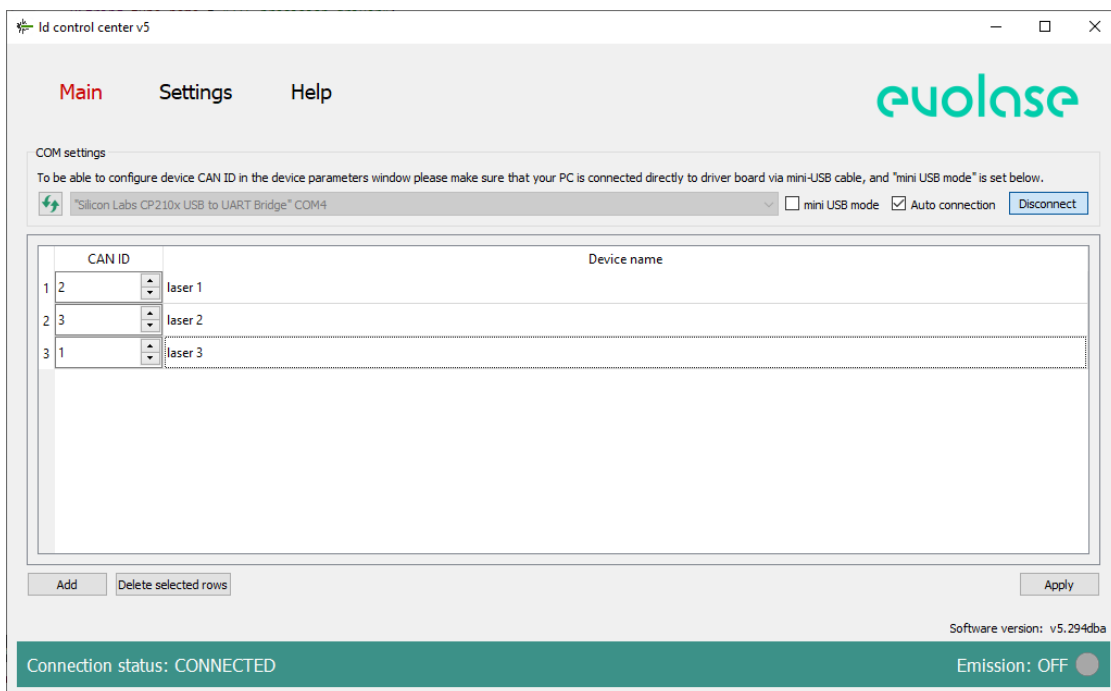

Figure 6: The system configuration menu
3. Click "Settings" to enter the program configuration menu (fig. 6).